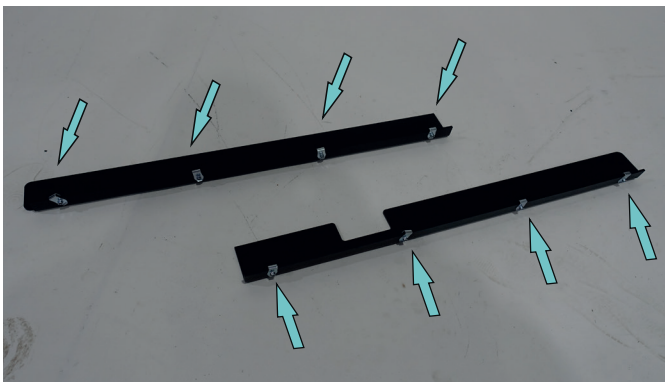

Fig. 27
28. Install U-nuts M6 (item J) into inside part of backings of bumper body (item 5,6). (Fig.27).